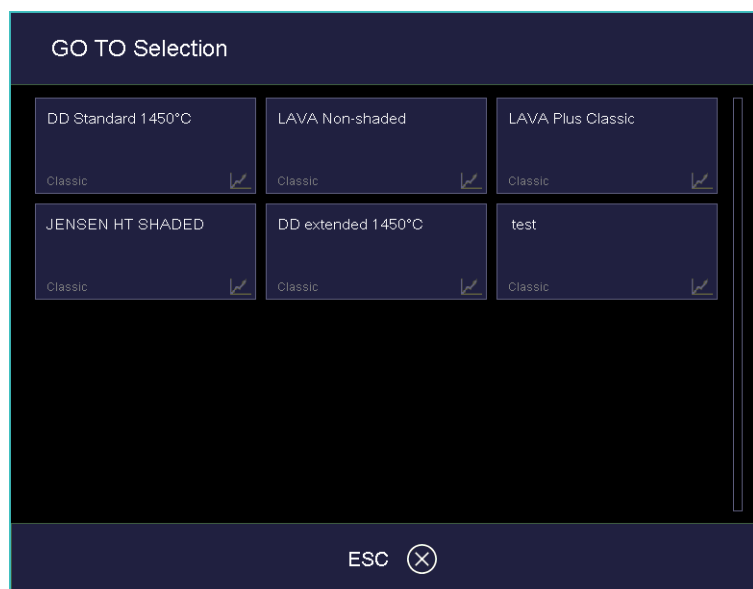

Fig. 5-8 "GOTO Selection" window (example)
• [GO TO]	Opens the "GO TO selection" window. See Fig. 5-8. You can select another program within the set.
<ul style="list-style-type: none">• [GO TO]	Opens the "GO TO selection" window so that you can select another program within the set. See Fig. 5-8
• [GO TO]	Opens the "GO TO selection" window so that you can select another program within the set. See Fig. 5-8